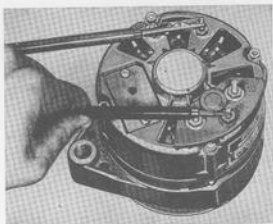

Fig. 3-19. Checking alternator
7. Connect a test lamp between B+ and the alternator frame. Switch the connections. The lamp should light only in one direction, see Fig. 3-19. After any repairs, the alternator should be test-run in a test bench.